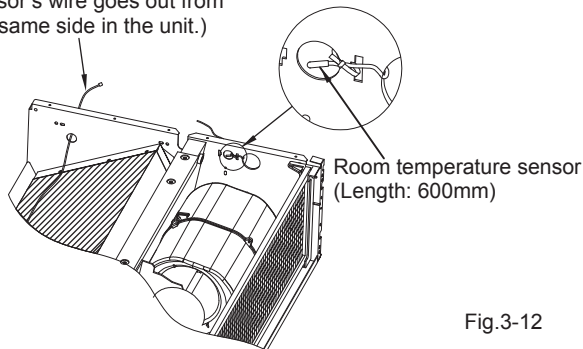

Fig.3-12
- Inside temperature controller (Fig.3-12)
- 2) Fixing install the room temperature sensor (length: 600mm) at air return orifice by cable clips and lead the sensor wire through out the wire hole. (showed as the Fig.3-12)